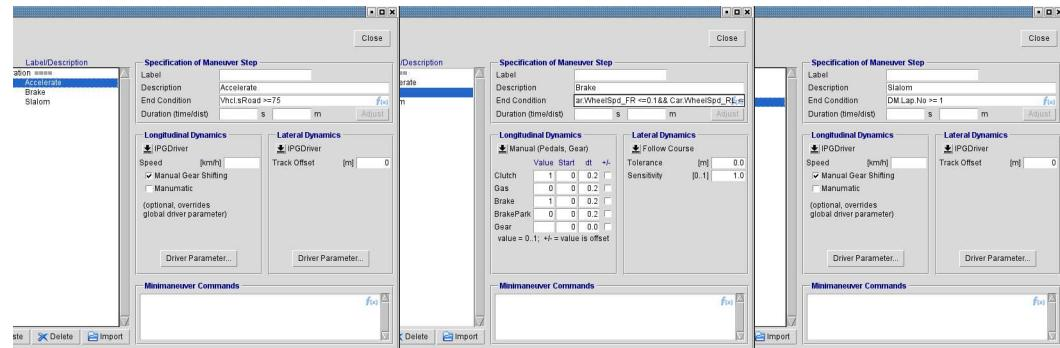

Figure 3.24: Maneuver dialog with successive maneuver steps
- Select "Manual" controller from the dropdown - menu in the *Longitudinal Dynamics* field. The clutch and brakes have to be fully pressed, set the values as shown in Figure 3.24: - (Middle).